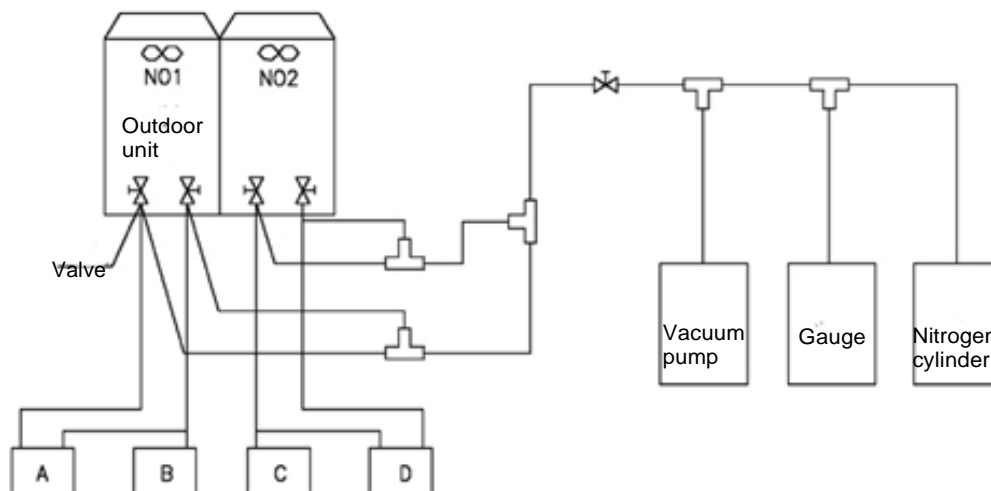

Fig 6 6 : The connection sketch map of vacuum drying equipment
1) The connection sketch map of vacuum drying equipment is as Fig 6 6 :